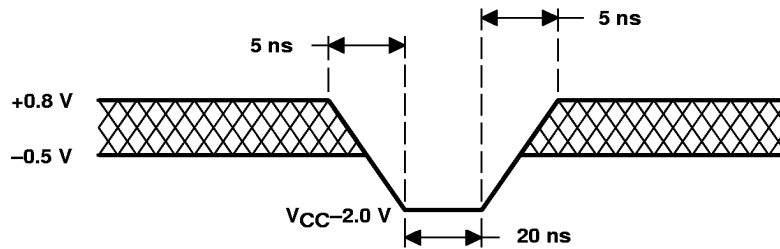

Figure 7. Maximum Negative Overshoot Waveform
5. The voltage on any input or output can undershoot to – 2 V for periods of less than 20 ns. See Figure 7.